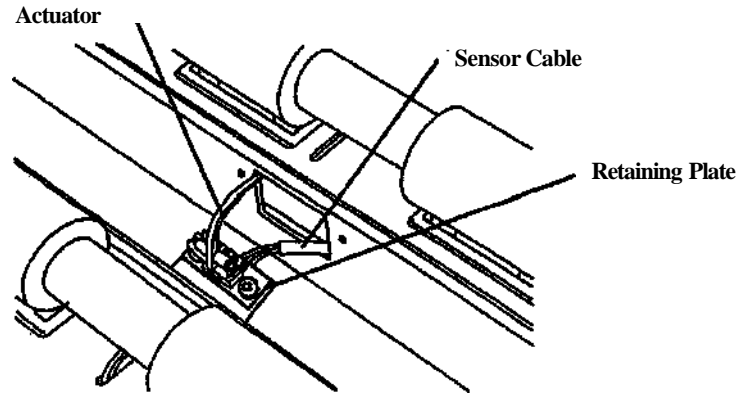

Figure 3. Sensor, Cable, and Retaining Plate
4. (Figure 3): Check that the sensor operates correctly and that the Actuator moves freely.